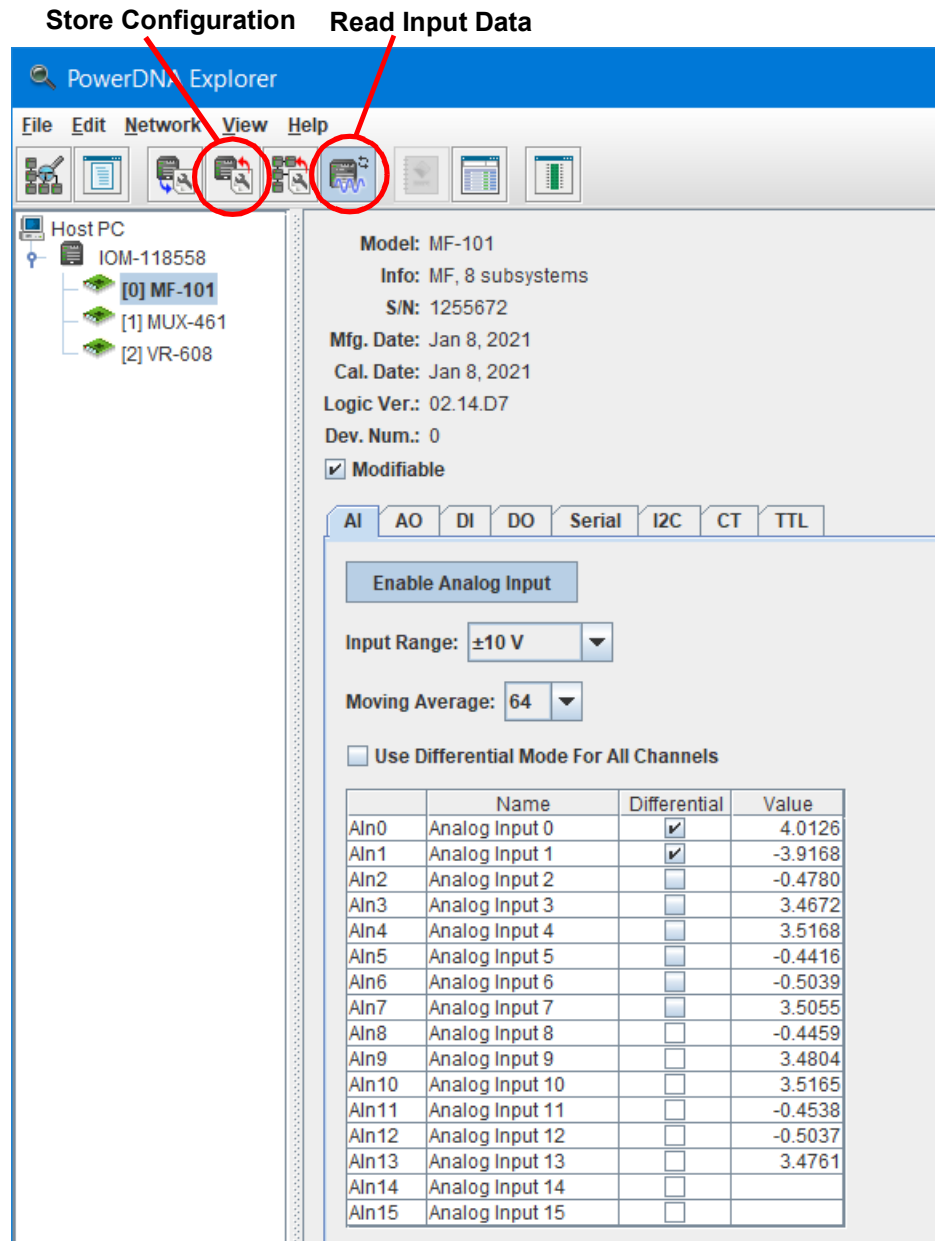

Figure 3-2 PowerDNA Explorer AI Tab
3.2 Analog Input To explore the analog input subsystem, select the AI tab (**Figure 3-2**) and click the **Enable Analog Input** button.
- **Differential:** sets the individual channel to differential mode. For example, in **Figure 3-2** channels Aln0 and Aln1 read differential data from pins Aln0+/0 and Aln1+/-, while channels Aln2:13 read single-ended data from pins Aln4:15.